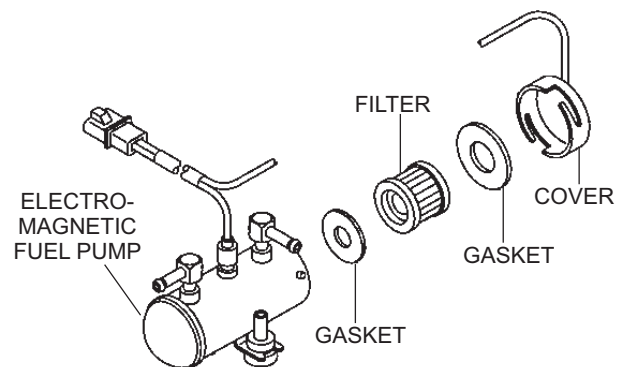

Figure 66. Electromagnetic Fuel Pump
The filter inside the **electromagnetic fuel pump** (Figure 66) is either a paper type or steel mesh type depending on the fuel pump type. Clean or replace the fuel pump filter as follows:
4. Remove the **filter** and **gaskets** (Figure 66) from the fuel pump housing.